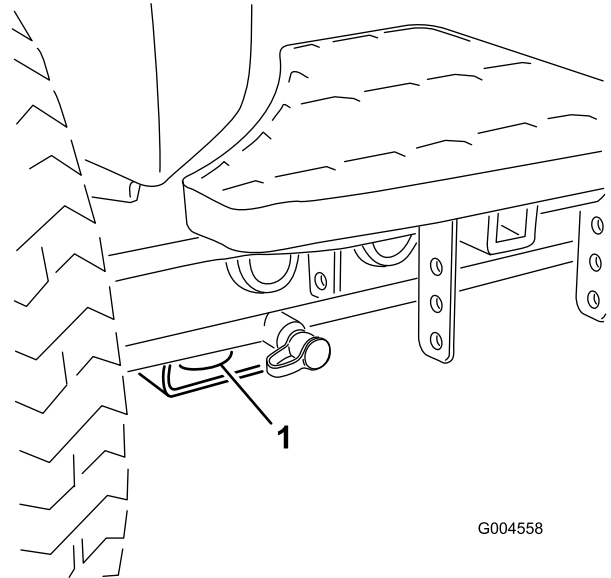

Figure 38
- Front—the hole in the rectangular pad, under the axle tube, inside each front tire (Figure 38).